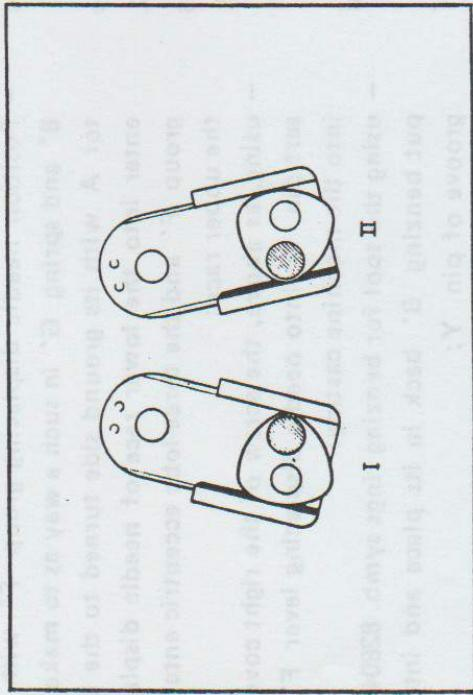

Fig. 56
- bring the needle bar to its lowest position by turning the balance wheel (there are two positions of the eccentric — fig. 56 — which correspond to that of the needle bar in its lowest point);